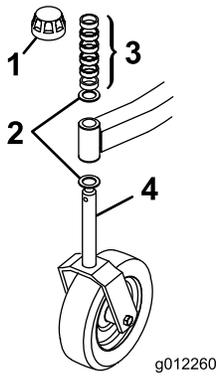
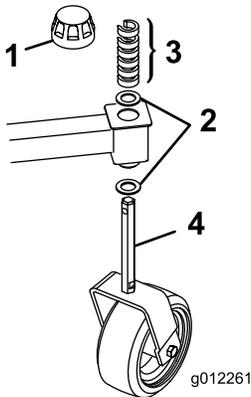

Figure 2
Figure 3
1. Remove the tensioning caps from the spindle shafts and slide off the spacers and thrust washers (Figure 2 & Figure 3).
2. Slide the spacers onto the castor spindle to get the desired height-of-cut; refer to the Height-of-Cut Chart in the Adjusting the Height of cut section . Slide a thrust washer onto the spindle. Push the large castor spindle through the front castor arm and the small castor spindle through the rear castor arm. Install another thrust washer and the remaining spacers onto the spindle and install the tensioning cap to secure the assembly (Figure 2 & Figure 3).